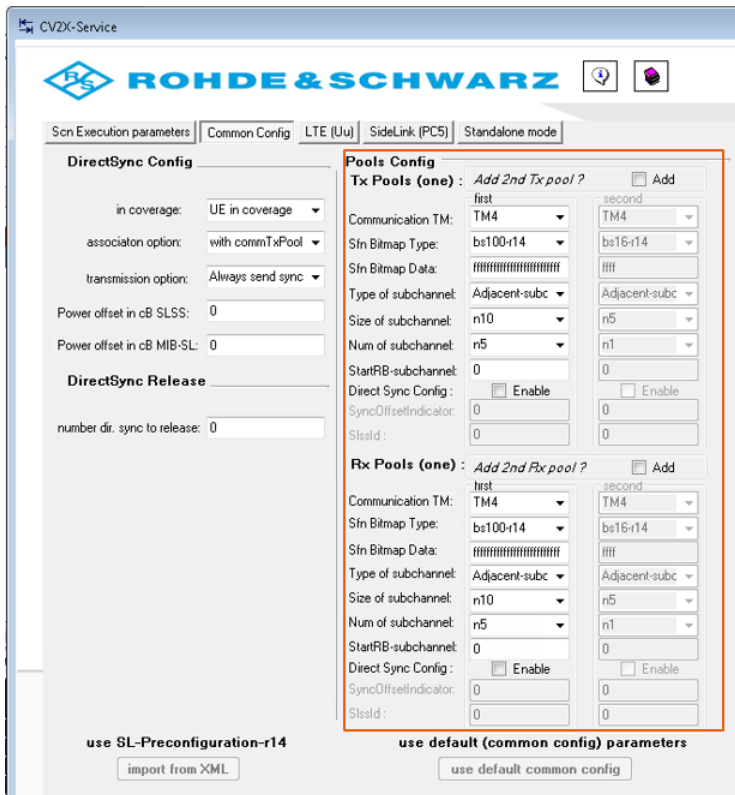

Figure 6 DUT pools configuration
- Choose the *Common Config* folder and set pools configuration compatible to the used DUT (example see Figure 6)